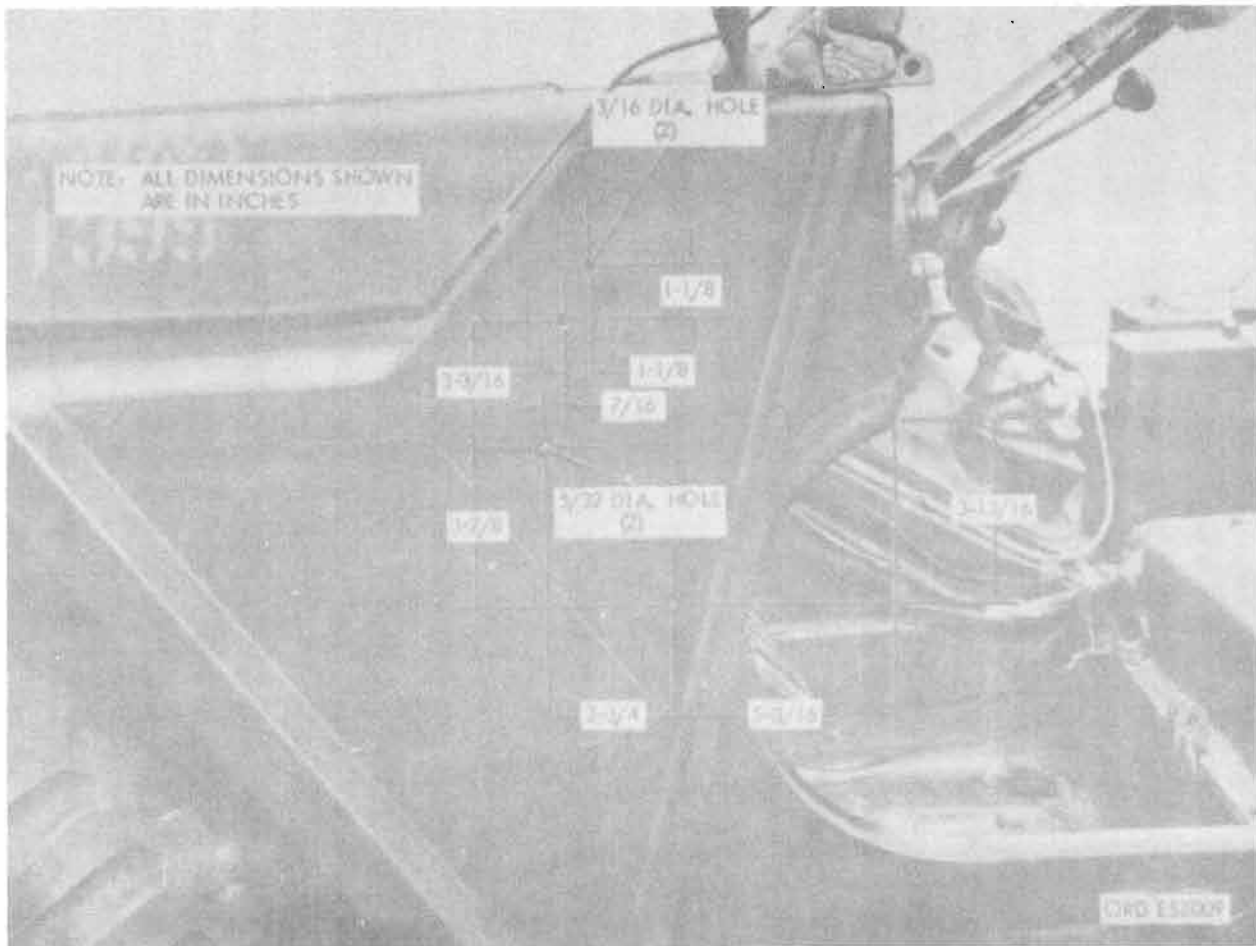

Figure 18-67. Left body side panel drilling.
g. Locate and drill two $5/32$ -inch diameter holes for resistor mounting, and two $3/16$ -inch holes in left body side panel for circuit breaker mounting (fig. 18-67).